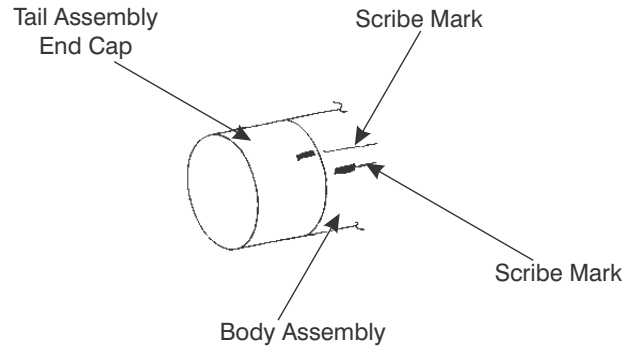

Figure 11-33. Tighten End Cap
7. The End Cap should be tightened to a torque of 175-200 ft.-lbs. If a torque wrench is not available, use the following procedure. See Figure 11-33.